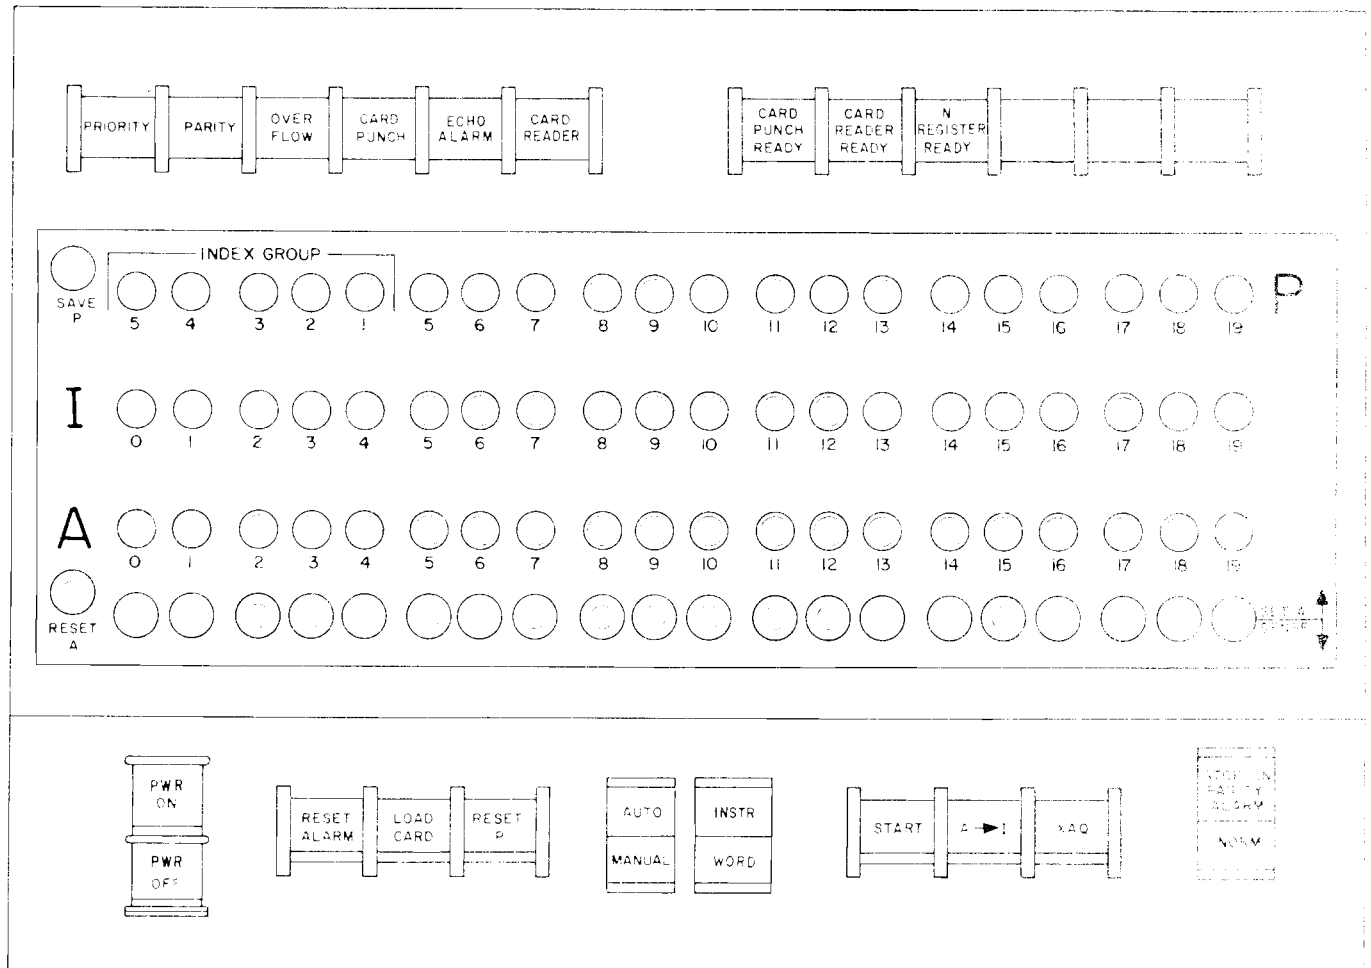

Figure IV-3. The Control Console
- B. CONTROL CONSOLE. The control console (Figure IV-3) is the most important and most used panel on the GE-225. It is sometimes referred to as having both an indicator panel and a control panel, for the upper two thirds of the console contains indicator lights and the lower third contains control switches. The indicators are alarm lights, ready lights, and register display lights for the A, I, and P registers. The controls are option switches and control switches.